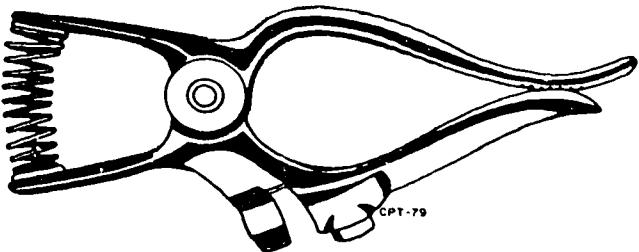

Figure 1-6. Ground clamp.
**Ground clamp.** The work must be connected to the welding machine. This is done with a second cable. For best results mount a ground clamp, as shown in figure 1-6, to the grounding cable. This clamp is made of brass and is an excellent ground. With little care this type of clamp will provide excellent service for an extended time.